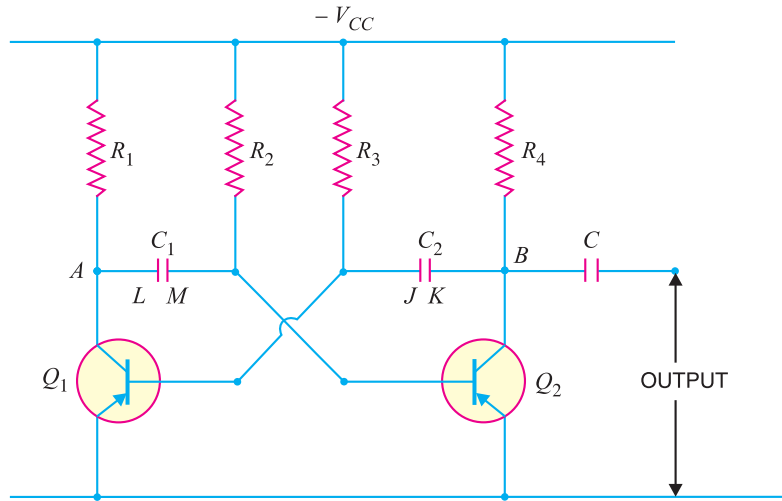

Fig. 18.13
**Circuit details.** Fig. 18.13 shows the circuit of a typical transistor astable multivibrator using two identical transistors  $Q_1$  and  $Q_2$ . The circuit essentially consists of two symmetrical CE amplifier stages, each providing a feedback to the other. Thus collector loads of the two stages are equal i.e.  $R_1 = R_4$  and the biasing resistors are also equal i.e.  $R_2 = R_3$ . The output of transistor  $Q_1$  is coupled to the input of  $Q_2$  through  $C_1$  while the output of  $Q_2$  is fed to the input of  $Q_1$  through  $C_2$ . The square wave output can be taken from  $Q_1$  or  $Q_2$ .
**Example 18.4.** In the astable multivibrator shown in Fig. 18.13,  $R_2 = R_3 = 10 \text{ k}\Omega$  and  $C_1 = C_2 = 0.01 \mu\text{F}$ . Determine the time period and frequency of the square wave.